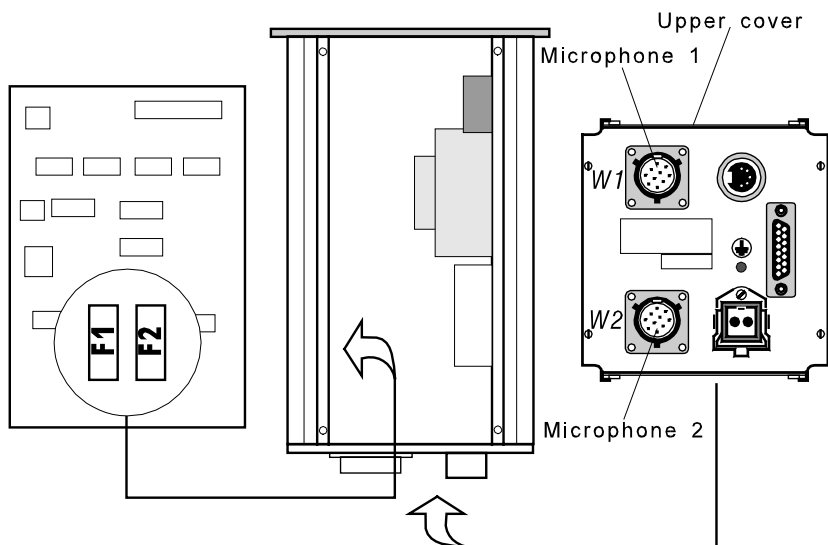

Figure 16. Replacement of the microphone protection fuses
- Replace fuses F1 and F2 respectively for microphone 1 and microphone 2 (see Figure 16), as indicated below: